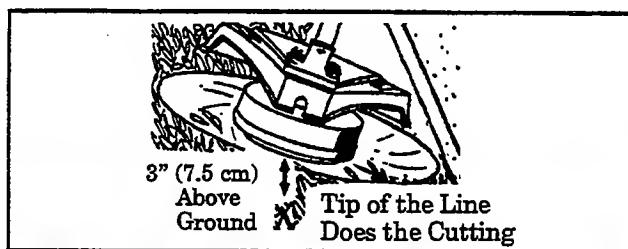

Figure 11
- TRIMMING** – Figure 11 . Hold bottom of the trimmer head about 3" (7.5 cm) above ground and at an angle. Allow only the tip of the line to make contact. Do not force trimmer line into work area.